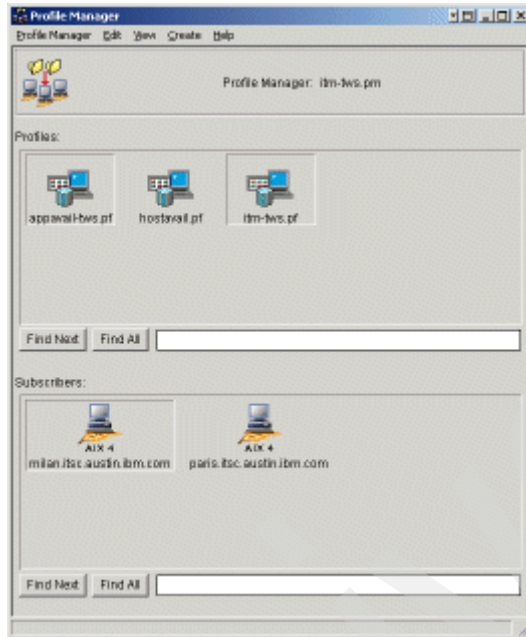

Figure 9-141 Selecting appavail-tws.pf and itm-tws.pf Tivoli Monitoring profiles
8. Control-click the appavail-tws.pf and itm-tws.pf Tivoli Monitoring profiles as shown in Figure 9-141 on page 538.